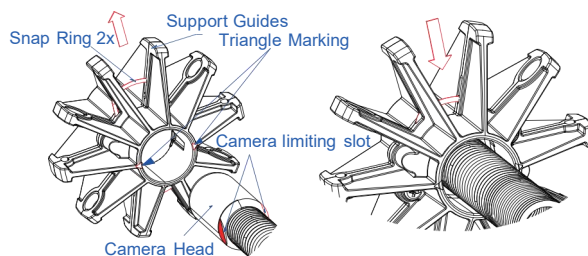

Figure 12. Install 86mm Support Guides
c. Install 86mm support guides. (Figure 12.)